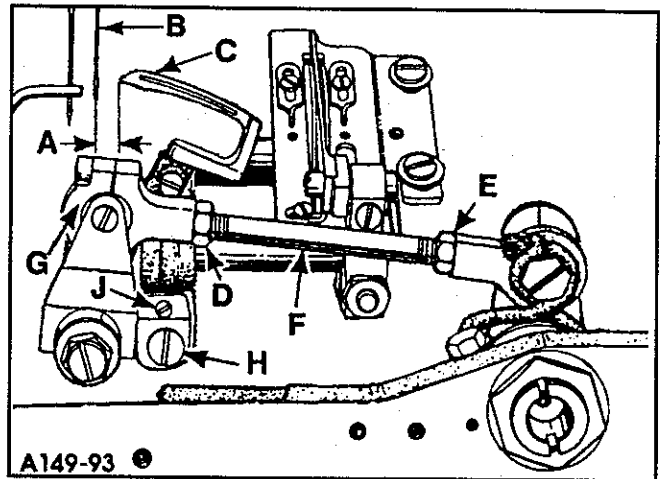
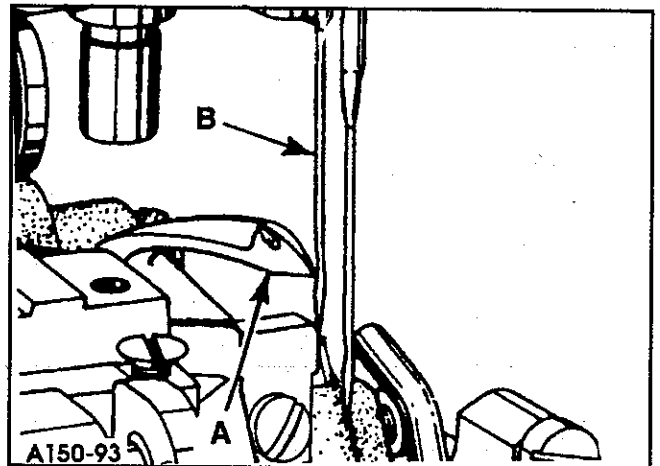

FIG. 9
FIG. 10
Insert a new set of needles of type and size required into right needle seat. Turn hand wheel in operating direction until looper is at its extreme right end of travel. Looper gauge (A, Fig. 9, see Table II for dimensions) is the distance between centerline of right needle (B) and point of looper (C).
**NOTE:** Be sure that the left ball joint (G) is in a vertical position and does not bind after adjustment.
While turning handwheel in operating direction, as the looper (A, Fig. 10) moves to the left its point should be set to brush but not pick at the REAR of RIGHT needle (B). Adjustment can be made by loosening screw (H, Fig. 9), turn stop screw (J) clockwise to move looper towards the rear, counterclockwise acts the reverse. It is suggested to hold looper towards the front while making this adjustment. Tighten screw (H) after adjustment has been made and recheck movement of looper.